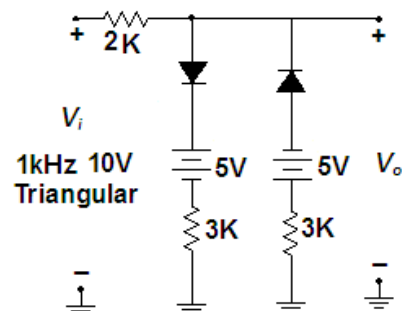

Fig: 7
4. Connect the circuit as shown in fig 7.